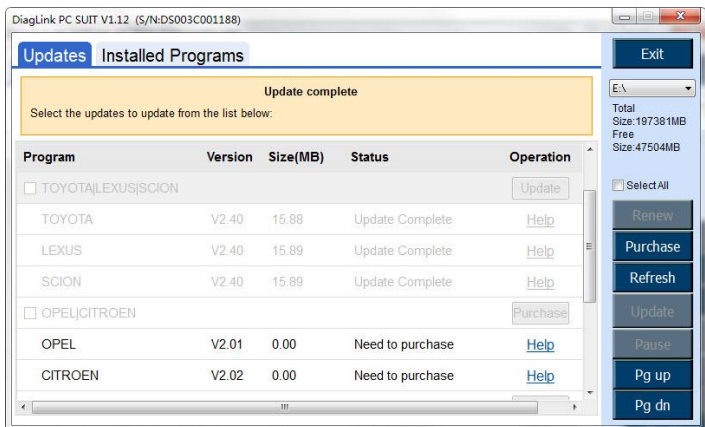

Figure 10.12
- 9) When the installation is completed (Figure 10.12), you can click **Purchase** button on the right side of screen to update other desired items on <http://pro.auteltech.com/>.